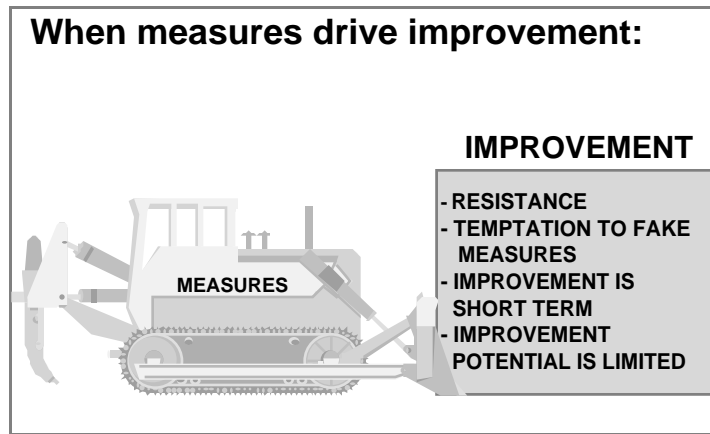

Figure 17 - Measures Drive Improvement
6. Desire for Improvement - In some organizations, leaders may use measures to try and drive improvement into the process. This approach doesn't work very often, and when it does, the improvement doesn't last very long (Figure 17).